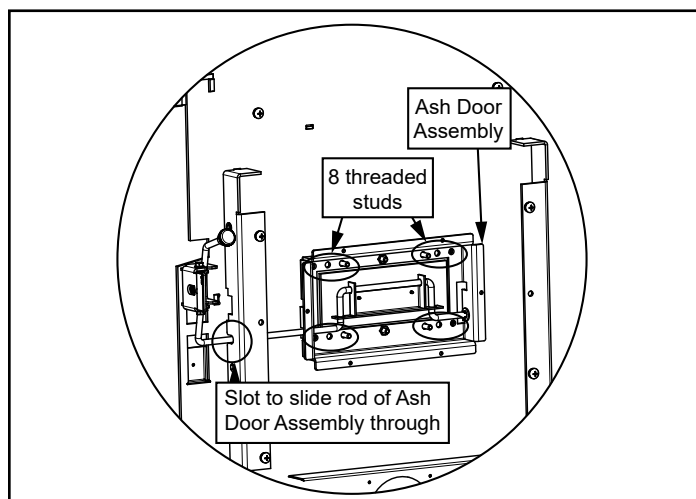

Figure 18.3
7. Install ash door assembly by sliding the rod at an angle into the slot on the left side (**Figure 18.3**).
8. Slide the ash door over the 8 screws protruding from the bottom of the appliance. Secure with nuts and washers using 7/16 socket wrench (**Figure 18.3**).
7. Install ash door assembly by sliding the rod at an angle into the slot on the left side (Figure 18.3 on page 18).
8. Slide the ash door over the 8 screws protruding from the bottom of the appliance. Secure with nuts and washers using 7/16 socket wrench (Figure 18.3 on page 18).